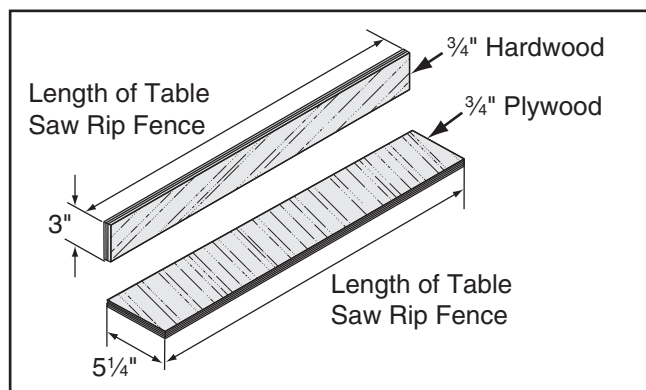

Figure 80. Auxiliary fence dimensions.
1. Cut a piece of $\frac{3}{4}$ " thick plywood $5\frac{1}{4}$ " wide and as long as your table saw fence; cut a piece of $\frac{3}{4}$ " thick hardwood 3" wide and as long as your table saw fence, as shown in **Figure 80**.